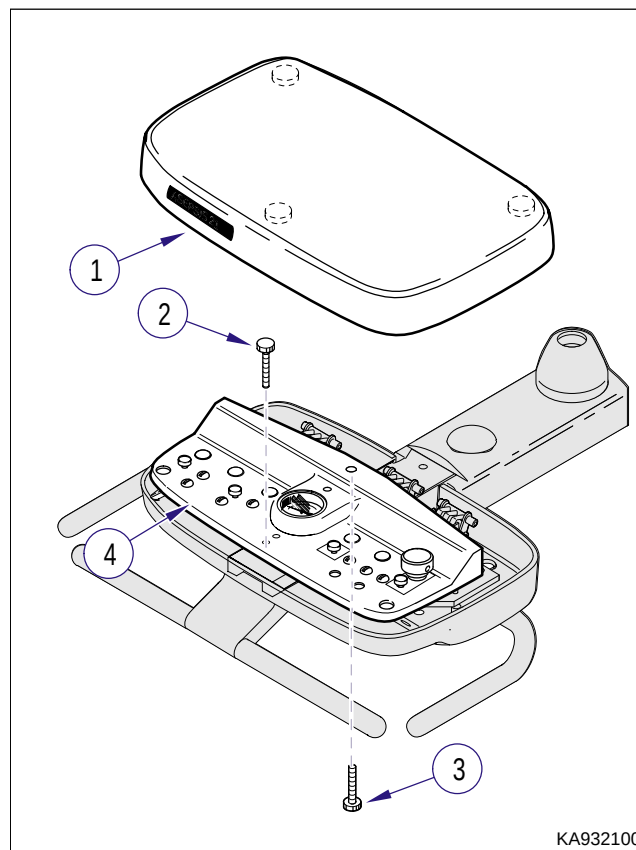

Figure 4-4. Asepsis 21 Delivery Head Cover Removal
- (1) Disable unit for repair. (Refer to para 4.1).
- (2) Remove outer cover (1, Figure 4-4). *[This cover is held on w/magnets; no tools are required].*